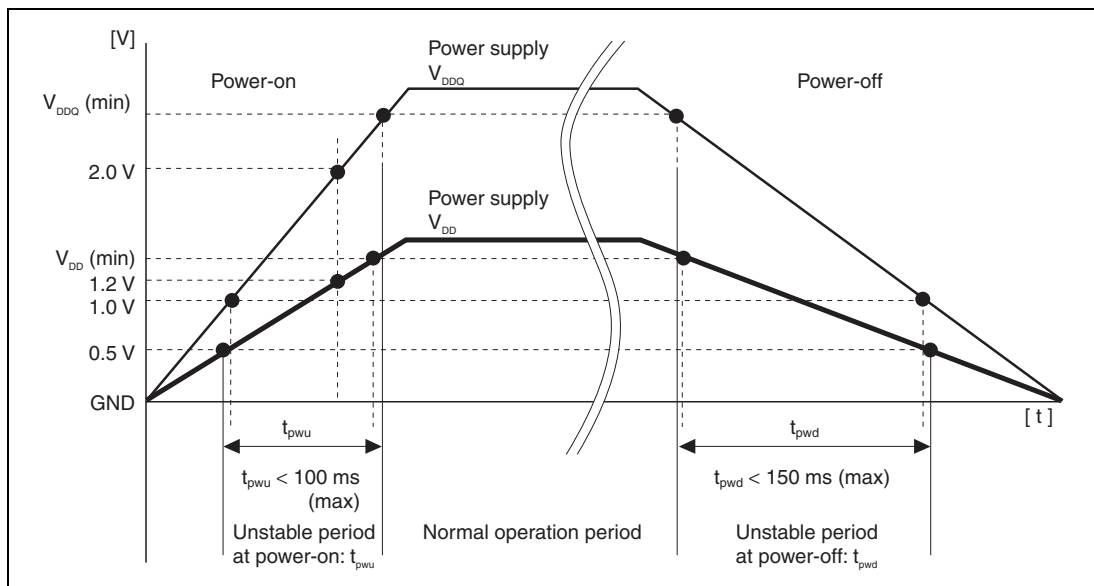

Figure G.3 Power-On Procedure 2
- When the LSI is mounted on a board and connected to other elements, ensure that  $-0.3 \text{ V} < V_{in} < V_{DDQ} + 0.3 \text{ V}$ . In addition, the time limit for the fall of power supply  $V_{DDQ}$  and power supply  $V_{DD}$  from the minimum values in the LSI's guaranteed operation voltage range ( $V_{DDQ}(\text{min.})$  and  $V_{DD}(\text{min.})$ ) to  $V_{DDQ} \geq 1.0 \text{ V}$  or  $V_{DD} \geq 0.5 \text{ V}$ , respectively, is 150 ms (max.), as shown in figure G.3. The product may be damaged if this time limit is exceeded. It is recommended that the power-off sequence be completed in as short a time as possible.